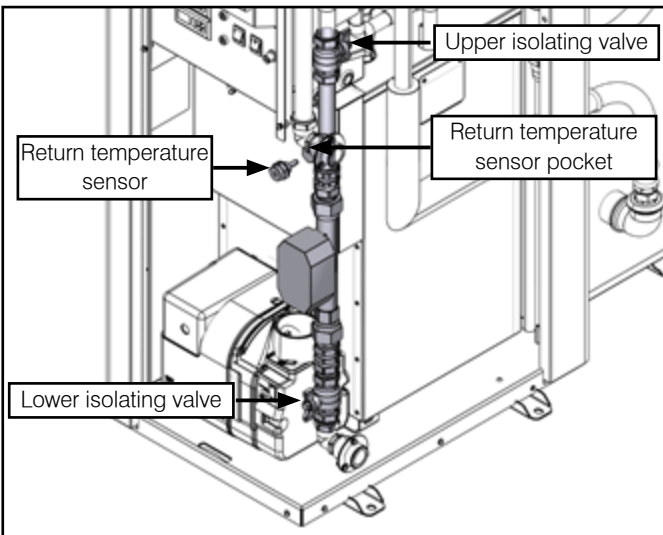

Figure 7-12: Flow meter fitted
- Using the two fibre washers (provided with the flow meter), fit the flowmeter between the joint faces of the upper and lower tails and tighten the union nuts. Refer to Figure 7-12.
1. Locate the return temperature sensor point on the return pipe above the flow meter. Refer to Figure 7-12.
Refer to Figure 7-12 Integrator connection diagram.